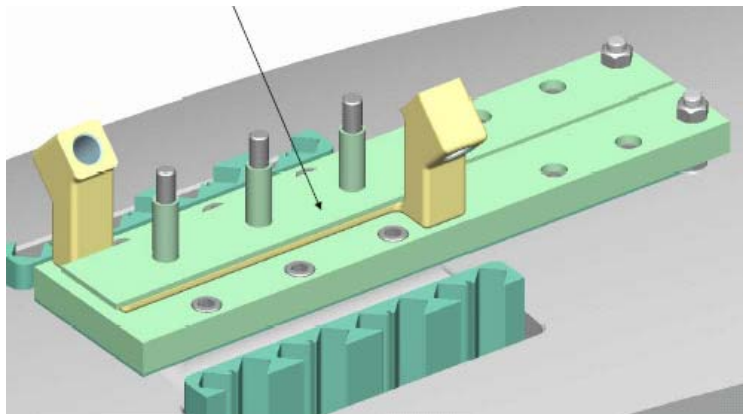
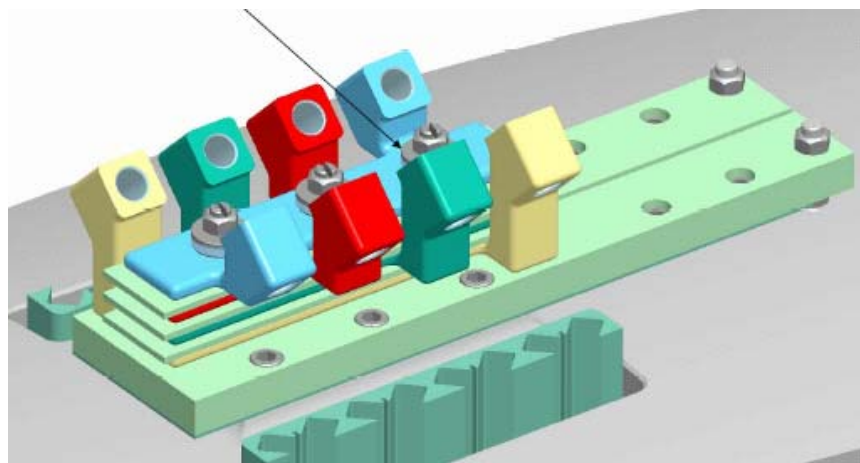

Figure 21-Jumper #1 and Insulating Plate Installed
Figure 22-Final Jumper#4 Installed and Secured
- Install jumper #1 then an insulating plate. Continue to alternate between jumpers and insulators until Jumper #4 has been installed. Then secure in place with Belleville washers, flat washer and nut. Do not torque the jumper hardware at this time. [Figure 21-Jumper #1 and Insulating Plate Installed and Figure 22-Final Jumper#4 Installed and Secured]